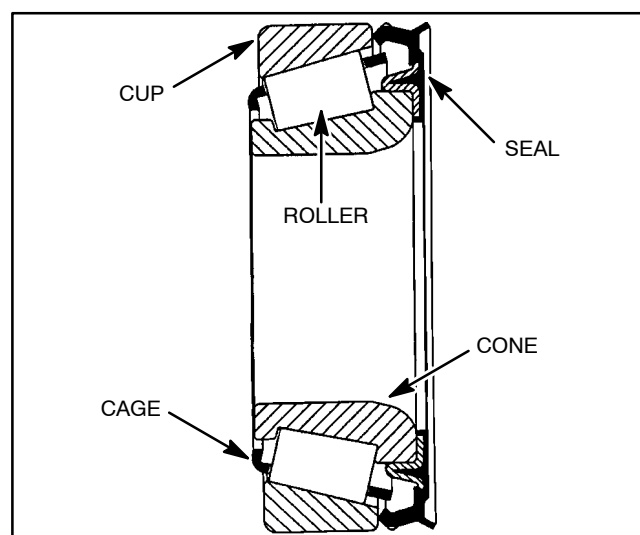

Figure 3
1. If any foreign material is in the bearing, clean bearing and determine source of the material. Replace bearings (16) if any of the following conditions occur (Fig. 3):
4. Replace wheel bearing spacer (20) if worn or damaged.